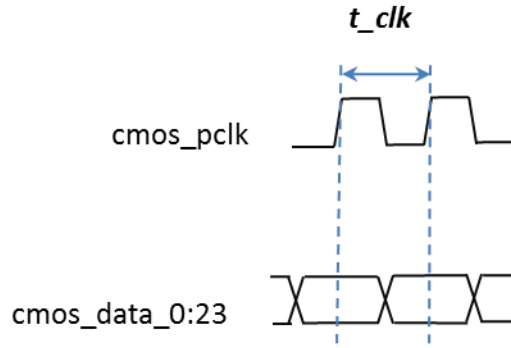

Figure 46: Phase of Pixel Clock relative to CMOS Data
4. All signals in the CMOS channel are latched on the rising edge of the pixel clock, *cmos_pclk*, as illustrated in Figure 46. As shown in Table 9, the period of the pixel clock is either 27.000 MHz or 13.500 MHz, depending upon whether or not the averager feature is enabled (see Section 7.2).